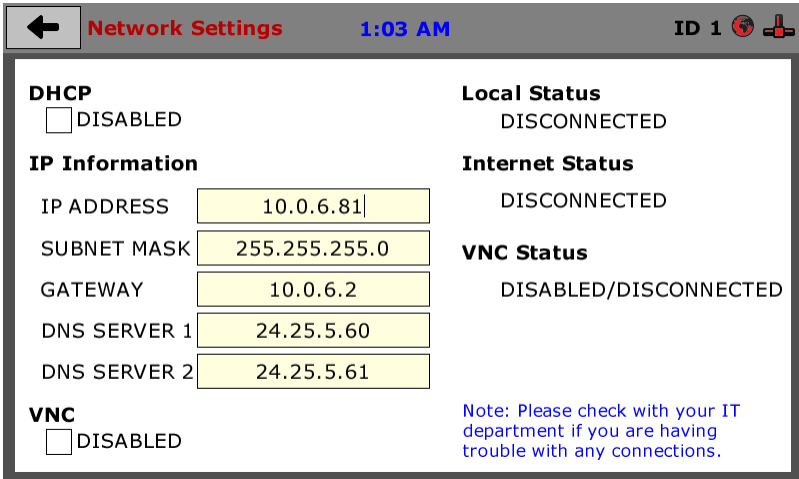

Figure 13
- 8) To disable DHCP, simply uncheck the box. Once DHCP is disabled, the screen will look like Figure 13.